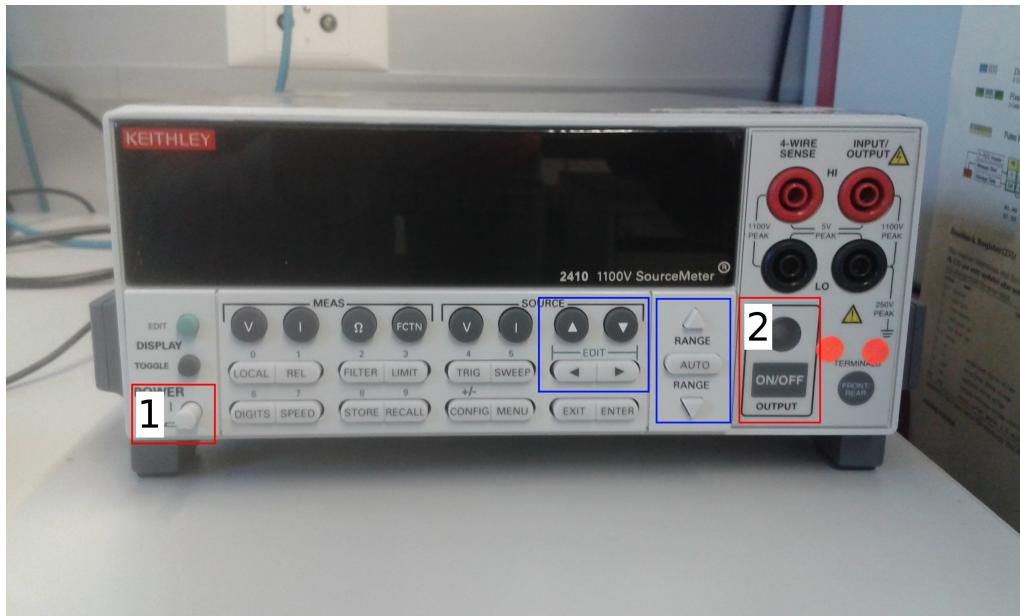

Figure 8: Picture of the Keithley power supply.
- Turn on Keithley by pressing 1 on Figure 8.
- Choose the desired bias voltage with the buttons marked in blue on Figure 8.
- Apply bias voltage to the module by pressing 2 on Figure 8.
- Turn on Keithley (only button 1 on Figure 8).